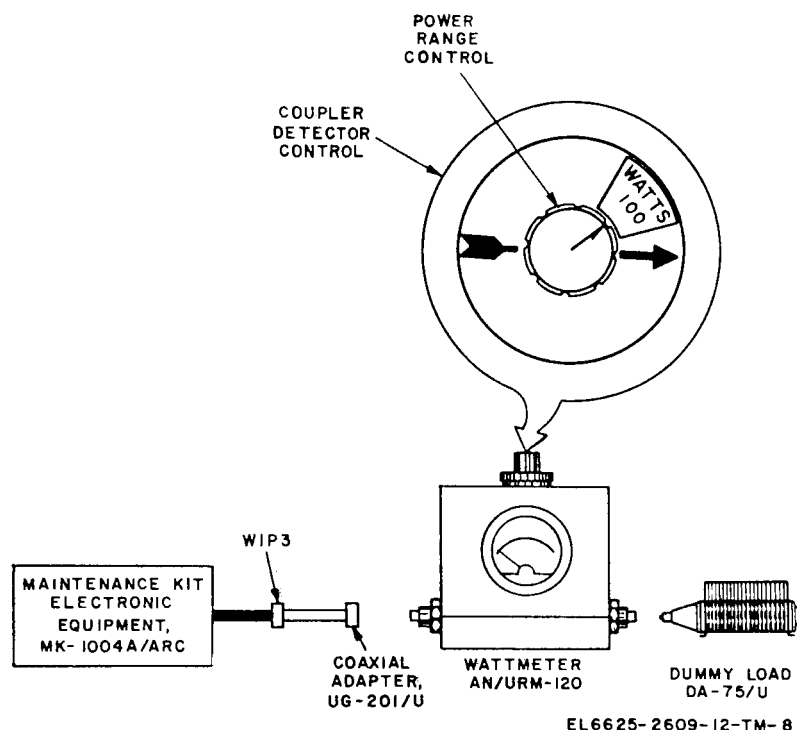

Figure 2-4. Wattmeter, Radio Frequency AN/URM-120 connected to maintenance kit.
(1) Connect Wattmeter, Radio Frequency AN/URM-120 and Dummy Load DA-75U to antenna connector W1P3 on the maintenance kit (fig. 2-4).